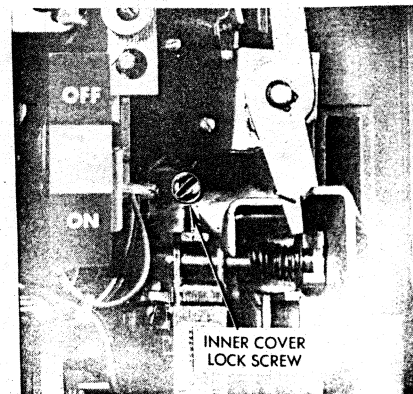

Fig. 8. Inner Cover Lock Screw
- b. Loosen captive Inner cover lock screw as shown in Fig. 8.
- d. Tighten inner cover lock screw to 10-in.-lbs. max., see Fig. 8.